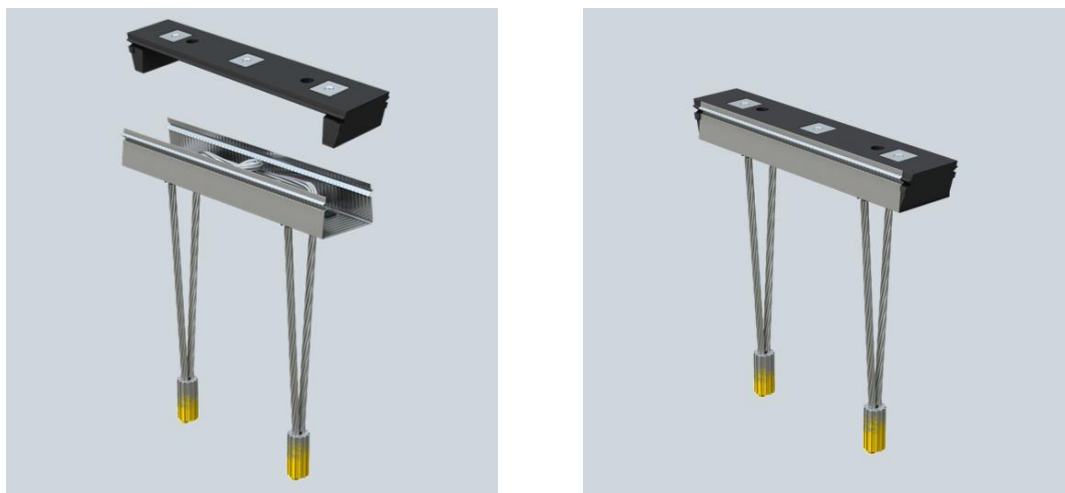

*Figure 5: Securing MLB-M onto Batten.*
3. For MOMENT Multi Loop Box (MLB-M), installation is to be done similar to MLB-S/D. However, only need to position and secure the box one time, as shown in Figure 5.